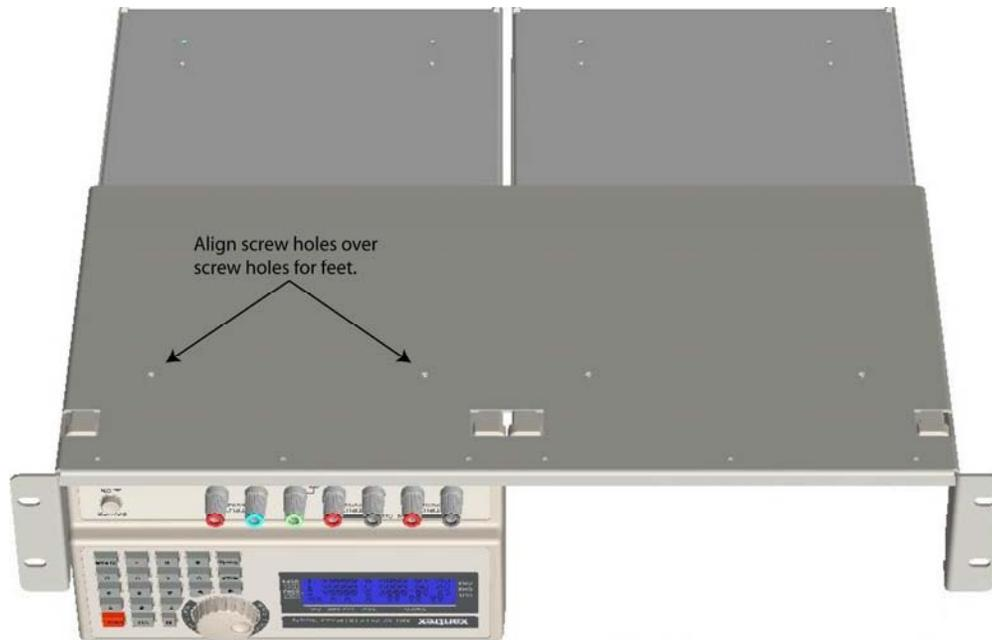

Figure 3. Unit, Bottom Up, with Main Rackmount Piece Aligned
4. With unit still in bottom-up position, lay rackmount piece on unit with its front lip overhanging front of unit and one side (right or left) flush against same (corresponding) side of unit, and with screw holes on rackmount piece aligned with holes where feet were removed from unit (Figure 3).